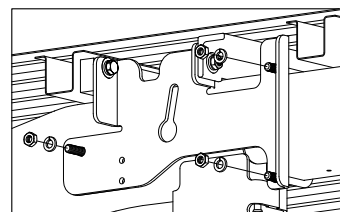

FIGURE C8: View from outside of Driver Side Frame.
- 5. Install U-Bolt.** Install the U-bolts from inside the frame. Place the U-bolt against the frame staying under the wiring harness and brake line. While making certain that nothing is between the frame and U-bolt, raise the U-bolt until the top leg is level with the top of the frame rail. Then turn the legs toward to the outside so that the U-bolt straddles the frame and the legs pass through the two holes in the sideplate. Attach the carriage bolt and U-bolt with 1/2" hardware as shown in figure C8. (Do not tighten hardware at this time.)